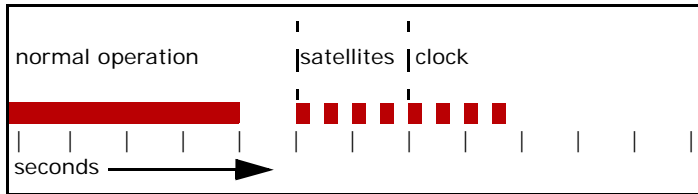

Fig. 2-29: Pattern of flashes indicating clock status.
- After the satellite indication, the LED pattern is 250ms on, 250ms off, from zero to four times (see Fig. 2-29). Table 2-2 explains the meaning of the number of flashes.